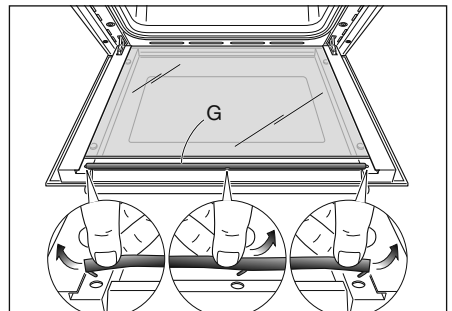

Fig. 35d
- Remove the seal "G" by unhooking the three fixing hooks (Fig. 35d).